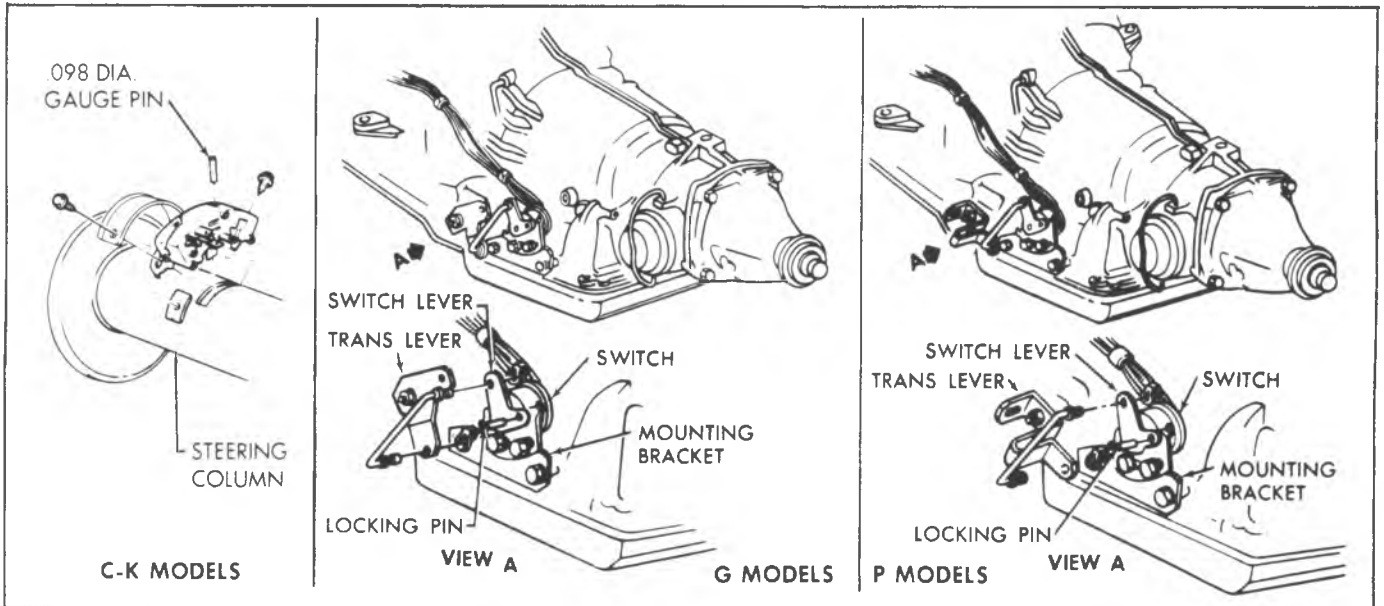

Fig. 8C-1—Neutral Start Switch Replacement - Typical
**G-P Series****Replacement (Fig. 8C-1)**
5. Align .093/.097" (2.3/2.4mm) hole in Lever (B) with hole in Switch Assembly. Insert Pin (A) to hold in NEUTRAL position.